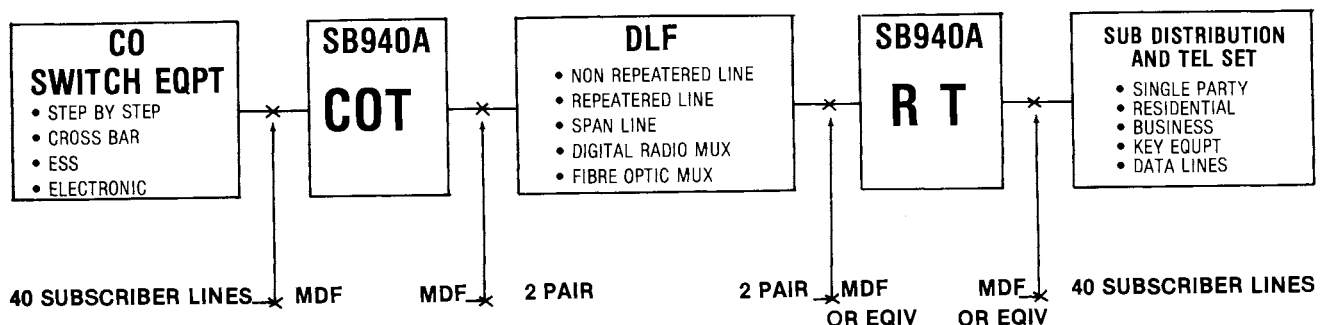

FIG. 2 SB940A SYSTEM CONFIGURATION
- 2.21 A system is structured of five sections as shown in Fig. 2. As compared to physical service the two terminals and DLF (Digital line facility) replace cable pairs. "Services are assigned on a per channel basis as would be the case with physical pairs".